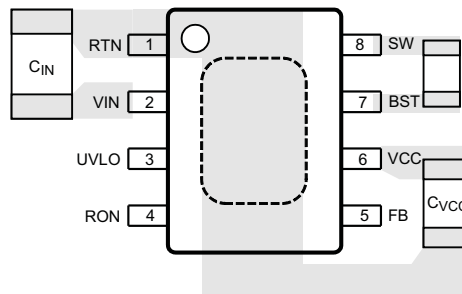

Figure 20. Placement of Bypass Capacitors
1. C_{IN} : The loop consisting of input capacitor (C_{IN}), V_{IN} pin, and RTN pin carries switching currents. Therefore the input capacitor should be placed close to the IC, directly across V_{IN} and RTN pins and the connections to these two pins should be direct to minimize the loop area. In general it is not possible to accommodate all of input capacitance near the IC. A good practice is to use a $0.1\ \mu\text{F}$ or $0.47\ \mu\text{F}$ capacitor directly across the V_{IN} and RTN pins close to the IC, and the remaining bulk capacitor as close as possible (see Figure 20).
2. C_{VCC} and C_{BST} : The V_{CC} and bootstrap (BST) bypass capacitors supply switching currents to the high and low side gate drivers. These two capacitors should also be placed as close to the IC as possible, and the connecting trace lengths and loop area should be minimized (See Figure 20).